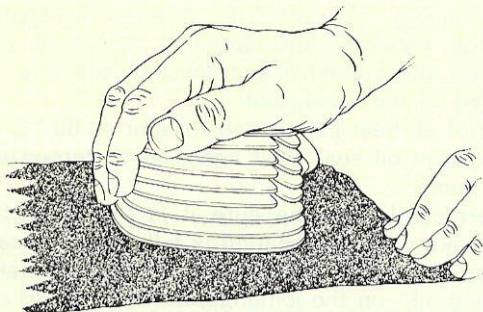

fig. 15
- before fitting cylinder barrel, true up jointing surface for cylinder head on a piece of fine emery cloth and surface plate or thick glass (fig. 15)